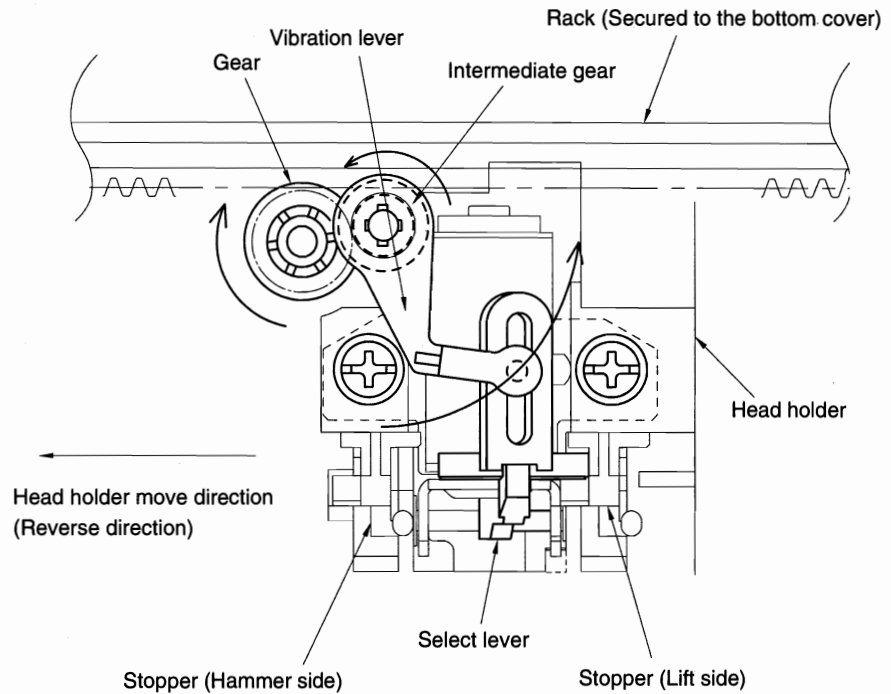
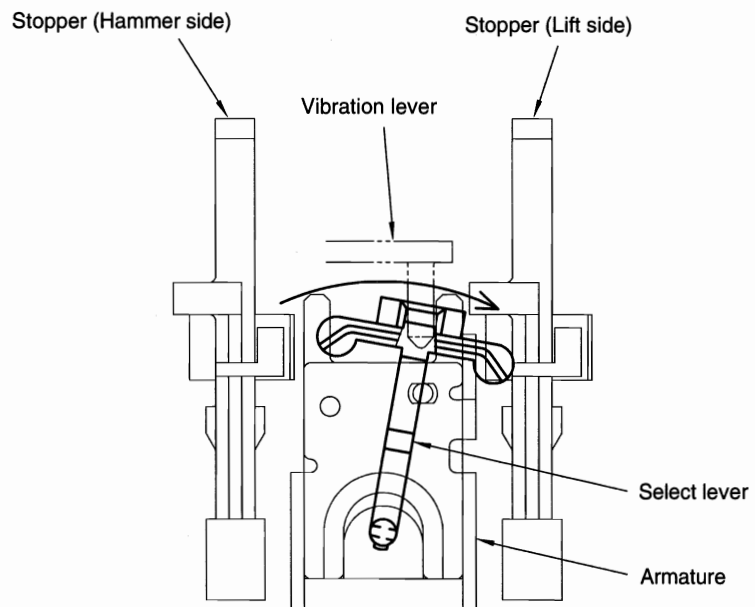

Fig. 1.10-1
Fig. 1.10-2
- (1) The head holder assembly moves to the left (reverse direction).
- (2) The gear installed to the head holder is rotated by the engagement with the rack.
- (3) The vibration lever makes counter-clockwise rotation due to the friction with the intermediate gear.(Fig. 1.10-1)
- (4) The select lever turns to the right (lift side).
- (5) When the hammer solenoid is energized, the lift side stopper operates and is released from the lift clutch collar so that the lift cam rotates.(Fig. 1.10-2)